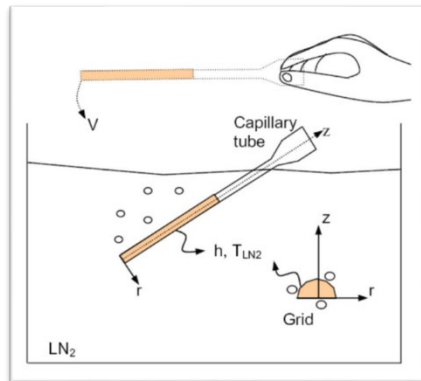

Figure 2. Submersion of cryolock into liquid nitrogen
- 7) Using a forceps, immediately submerge cryolock into liquid nitrogen and cap the cryolock while submersed in nitrogen (**Figure 2**)